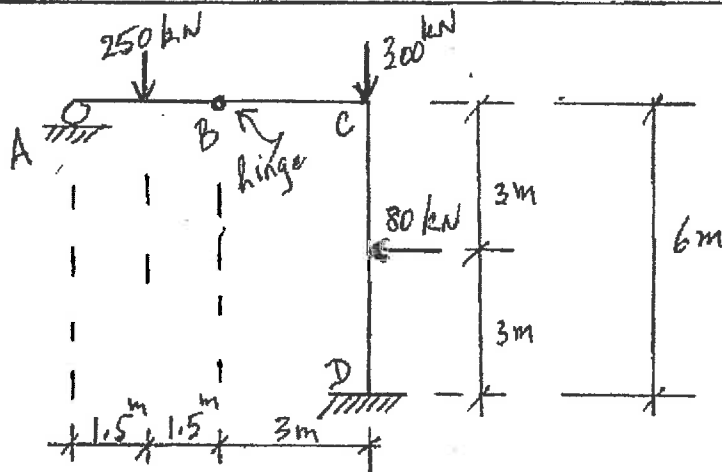

FIGURE B1
- B1. Figure B1 shows a loaded reinforced concrete determinate frame. Determine the dimensions of a rectangular cross-section and the required amount and layout of steel reinforcing for member ABC, to satisfy both moment and shear requirements. Use $f'_c = 35$ MPa and $f_y = 400$ MPa.
- B2. Design the column CD for the reinforced concrete frame in Fig. B1. The column can be assumed short. Use $f'_c = 35$ MPa and $f_y = 400$ MPa.